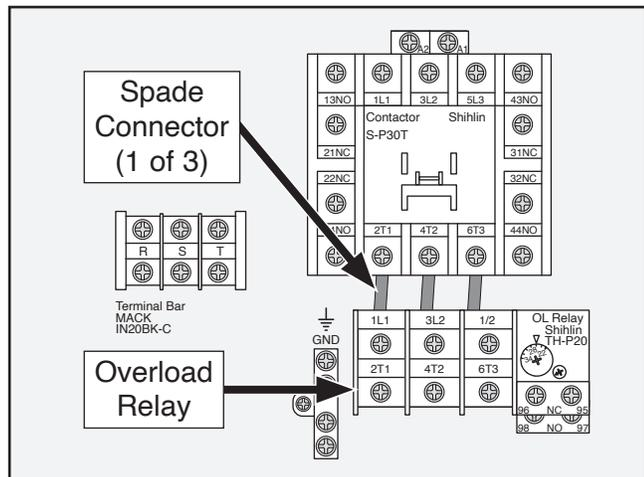

Figure 10. Spade connectors to remove on overload relay.
- Gently pull cover off of overload relay, then disconnect (3) spade connectors connected to relay terminals (see **Figure 10**) and remove relay.